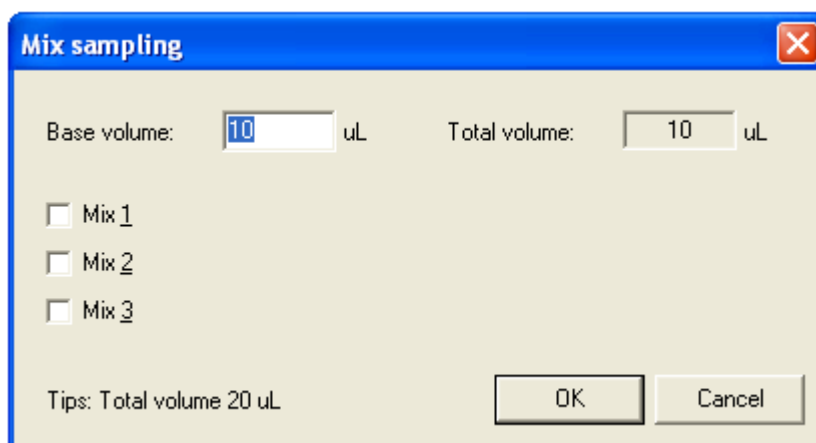

Fig. 2-3: setting the mix sampling
16. Click on the button of “Setup” designed for “total volume” to enter into the window of setting mix sampling. See Fig. 2-3. The window is used for setting sampling volumes of samples and additional matrix modifier.